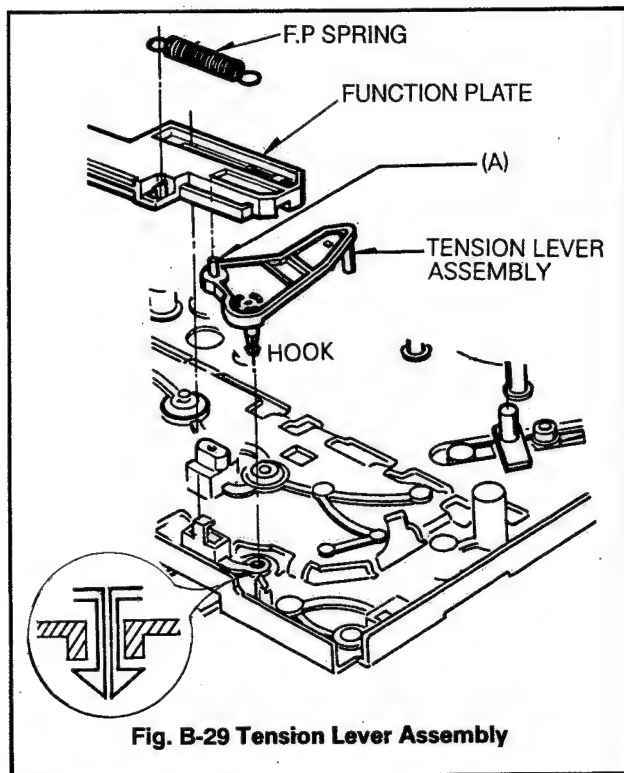

Fig. B-29 Tension Lever Assembly
- 1) When reassembling, the groove of Lower part of Function Plate should be aligned with the shaft of Tension Lever Assembly (Fig. B-29).
## 29. Tension Lever Assembly(Fig. B-29)